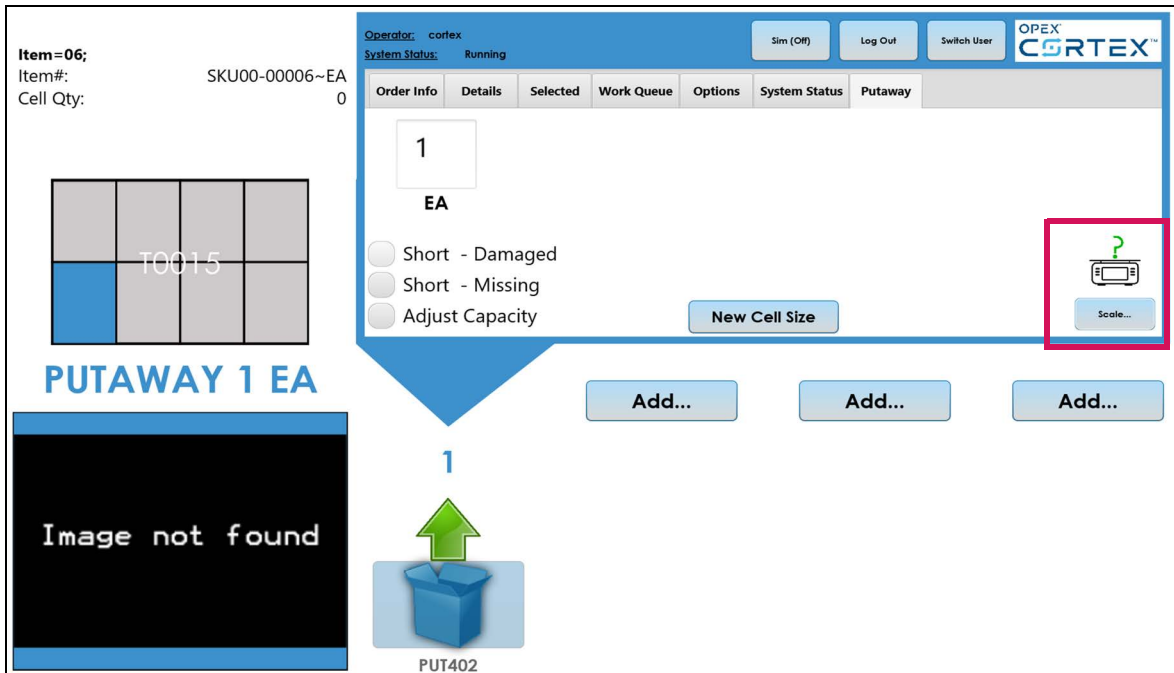

Figure 2-2: Cortex tab with scale icon and button
1. Open any tab in Cortex. The following image (Figure 2-2) displays when Cortex presents a tote for an item that does not have a piece weight in the database.